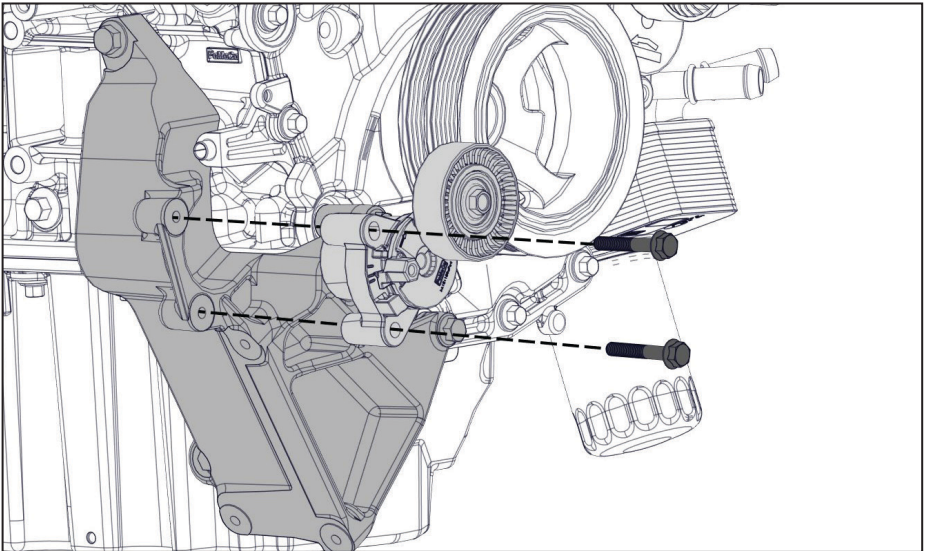

Figure 19 — Install tensioner
- Using the (x2) supplied M8x1.25x50 mm bolts, install the 4 rib belt tensioner onto the VMAC main bracket (Figure 19).